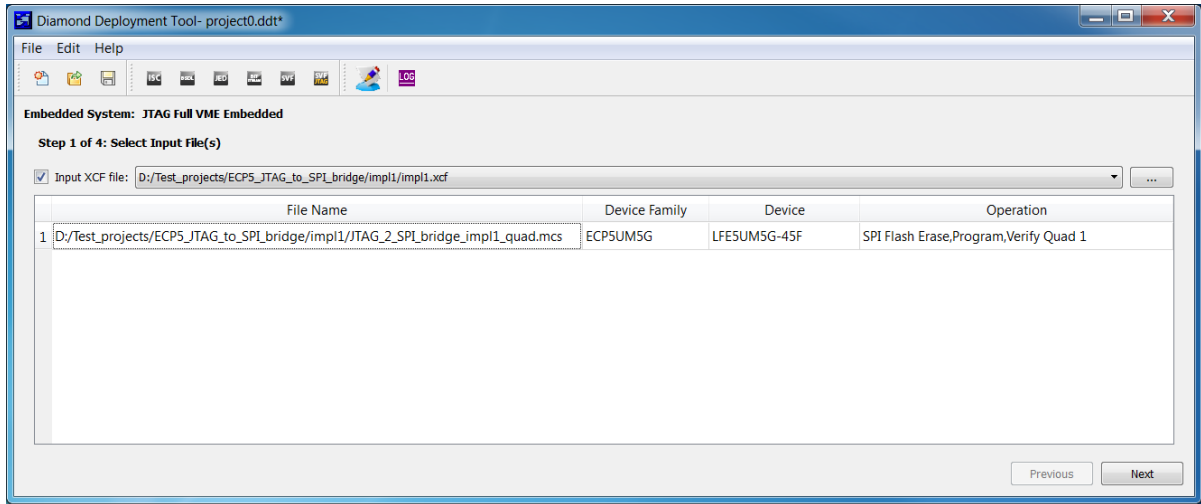

Figure 7.2. Step 1 of 4: Select Input File(s)
3. In **Step 1 of 4: Select Input File(s)**, shown in Figure 7.2, select the input file (*.xcf) generated by Diamond Programmer in **Input XCF file**. Verify if the operation is correct and click **Next**.